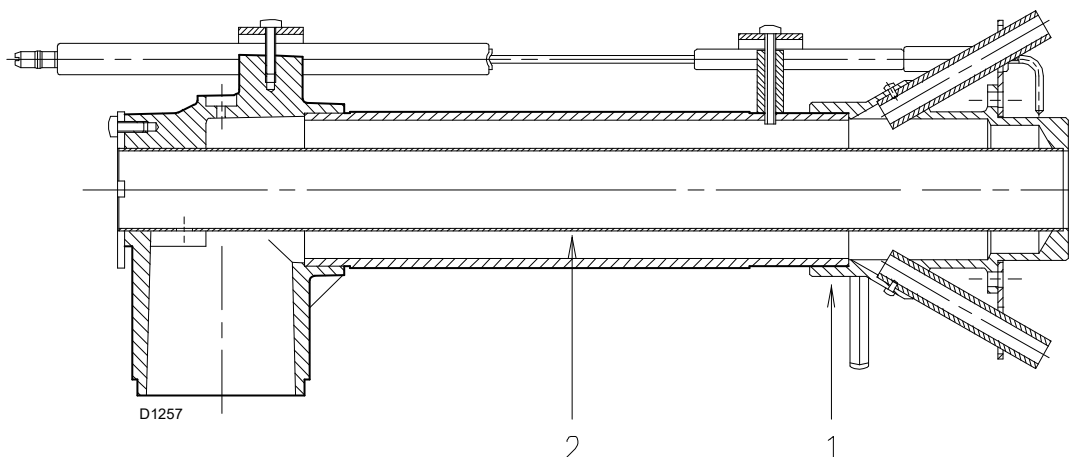

Fig. 1
- replace the distributor unit 1)(Fig. 1) with the one for LPG operation supplied with the standard equipment;
- replace the ring nut 3) - 4)(Fig. 1) supplied with the standard equipment.